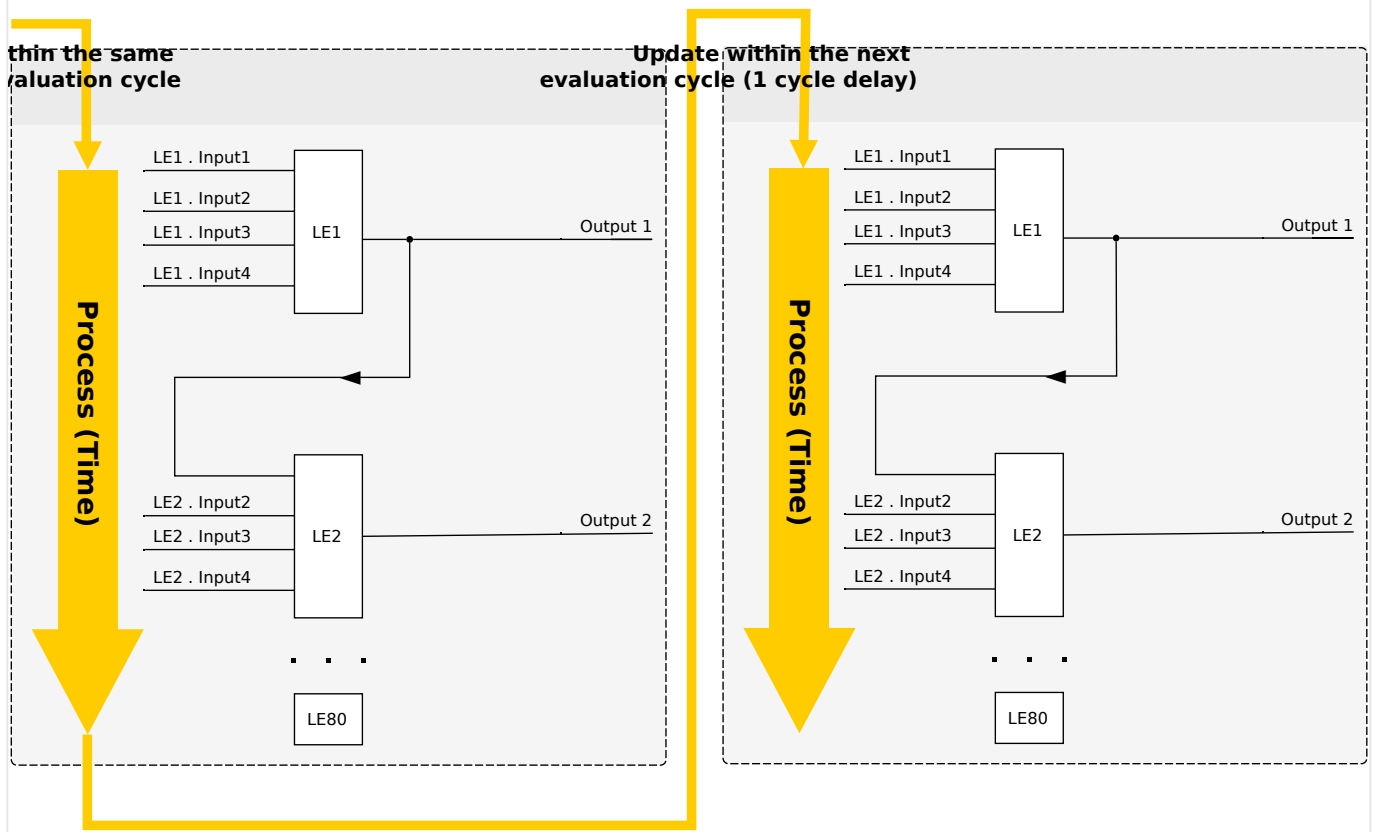
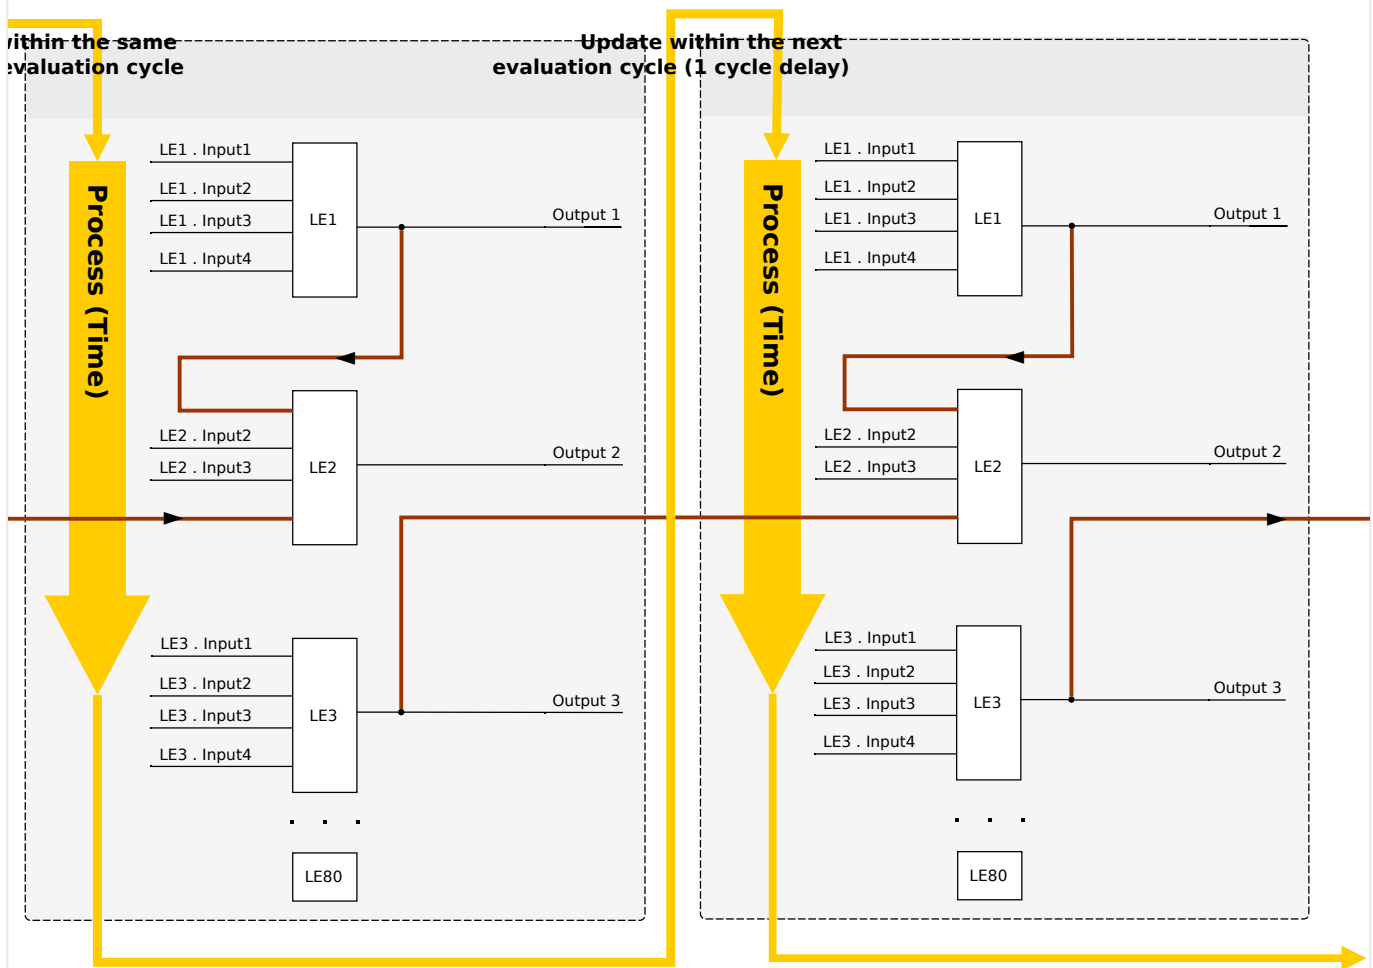

Fig. 108: Cascading in Ascending Order.
Fig. 109: Cascading in Descending Order.
- **Ascending** sequence means that some output is fed into the input of a logic equation with **higher** number. For instance, diagram ↪Fig. 108 below shows an example where the result of Logic Equation LE1 is used as an input of Logic Equation LE2.
- **Descending** sequence means that some output is fed into the input of a logic equation with **lower** number. For instance, diagram ↪Fig. 109 shows an example where the result of Logic Equation LE3 is used as an input of Logic Equation LE2.
Both ascending and descending sequences may be used and combined one with the other, with no immediate difference. However, due to the evaluation of all equations in ascending order the actual run-time values that are fed in at the input of an equation will have a different “age”, as is shown in ↪Fig. 108 and ↪Fig. 109 below.
In the example shown in Fig. 109 above, “Logic Equation 2” uses the output states of two other equations, “Logic Equation 1” and “Logic Equation 3”. The result of “Logic Equation 1” is used in ascending order and has therefore been evaluated within the same process cycle. The result of “Logic Equation 3” is used in descending order and has therefore been evaluated in the previous process cycle.